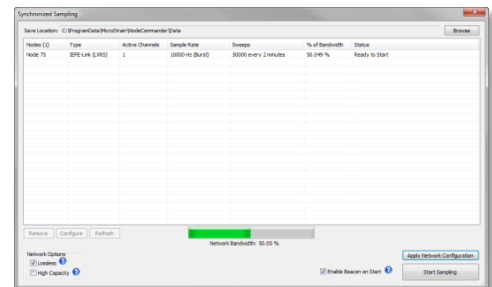

Figure 10: Synchronized Sampling window
3. Click Synchronized Sampling and the Synchronized Sampling window appears (Figure 10). Our example Node 75 is reported with an *In Network* status, indicating the node and its sampling settings are found.